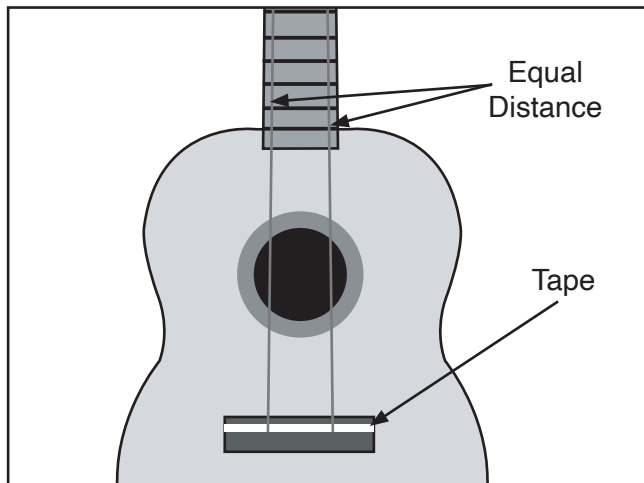

Figure 14. Centering bridge.
5. To correctly center bridge, attach (2) pieces of thread to 1st and 4th nut slots, then tape opposite ends to corresponding holes in bridge (see **Figure 14**).
6. Center bridge so there is an equal amount of space between fretboard edges and threads (see **Figure 14**).